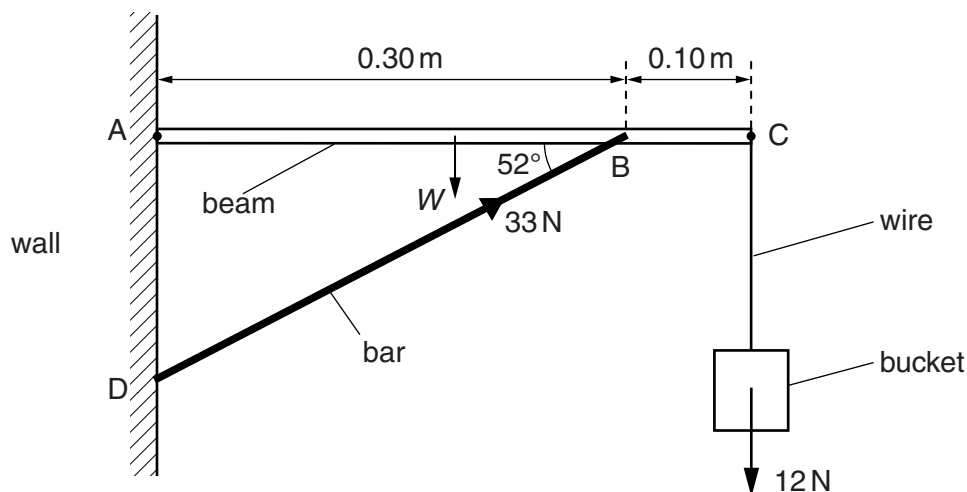

Fig. 3.1 (not to scale)
- (b) A uniform beam AC is attached to a vertical wall at end A. The beam is held horizontal by a rigid bar BD, as shown in Fig. 3.1.